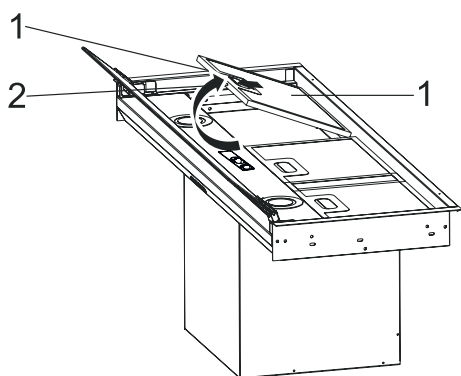

Fig. 10
1. ➔ Remove the appliance package and place the aluminium filters facing upwards. (Fig. 10).
Press the aluminium filter latch (Fig. 10/1) and pull upwards (Fig. 10/2) to remove.